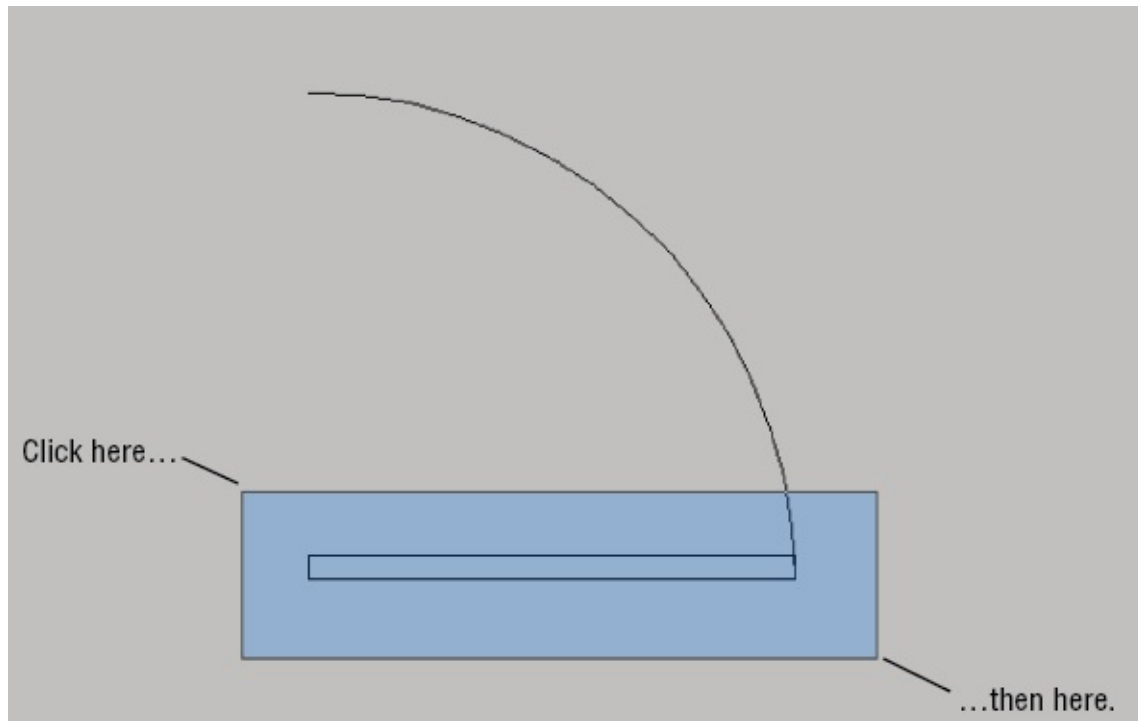

FIGURE 17.10 Select the rectangle representing the door.
3. Click the AutoConstrain tool in the Block Editor tab's Geometric panel, and then select the rectangle representing the door, as shown in Figure 17.10. To select the door using a window, click above and to the left of the door, and then click below and to the right.